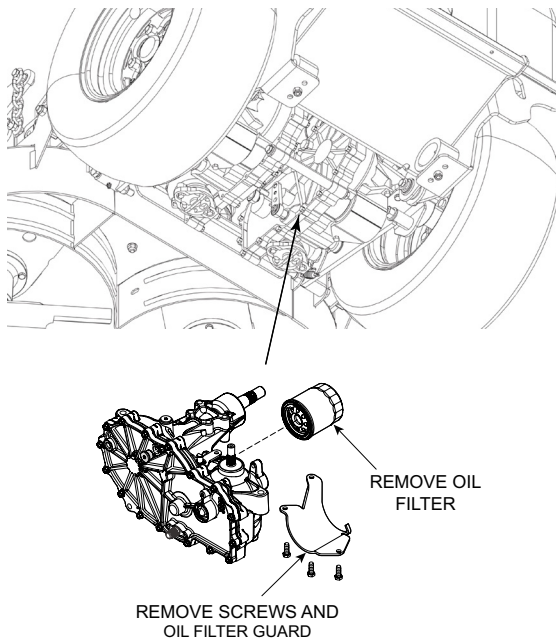

Figure 7-2. Hydraulic Oil Filter & Drain Plug
2. Remove the three 1/4" filter guard screws and the filter guard from both transaxles. See Figure 7-2.
5. Remove the hydraulic oil filters from both axles and allow for all of the used oil to drain into the container. See Figure 7-2.